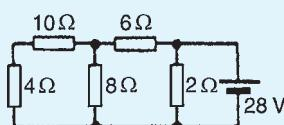

Figure 13.51
4. In the network shown in Fig. 13.51, the battery has negligible internal resistance. Find, using Thévenin's theorem, the current flowing in the 4Ω resistor.